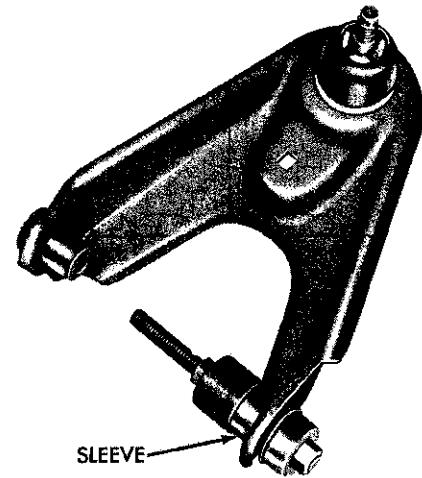

Fig. 12—Installing the Upper Control Arm Bushing Support Sleeve
(1) Position the flange end of the new bushing in Tool C-3710 and then support the control arm squarely.
(2) Force the bushings into the control arm (from outside) until the tapered portion of the bushing seats on the arm.
(3) Remove the tool and install adaptor SP-3827 in place of SP-3233A cup on the tool and install the bushing support sleeve (Fig. 12).
(4) Thread the ball joint into the arm using Tool C-3560 for Models VC-1, VC-2 and VC-3, or Tool C-3561 for VY-1.
(5) Tighten to a minimum of 125 foot-pounds torque on Models VC-1, VC-2 and VC-3 and 150 foot-pounds on Model VY-1 until seated. The ball joint will cut threads into the arm during the tightening operation. After the bushings have been pressed in place, install the upper control arm on the vehicle.